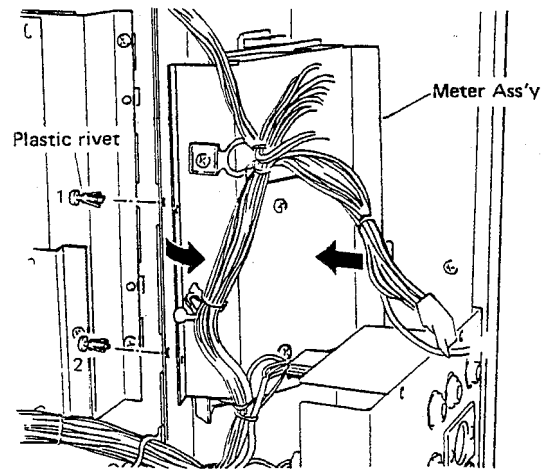

Fig. 9
- d. Remove two plastic rivets (① and ② in Fig. 9), and the meter ass'y can be removed.